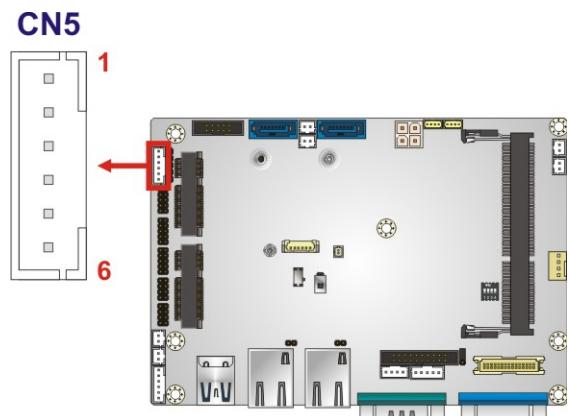

Figure 3-17: Power and HDD LED Connector Location
**CN Label:** CN5**CN Type:** 6-pin wafer**CN Location:** See **Figure 3-17****CN Pinouts:** See **Table 3-17**